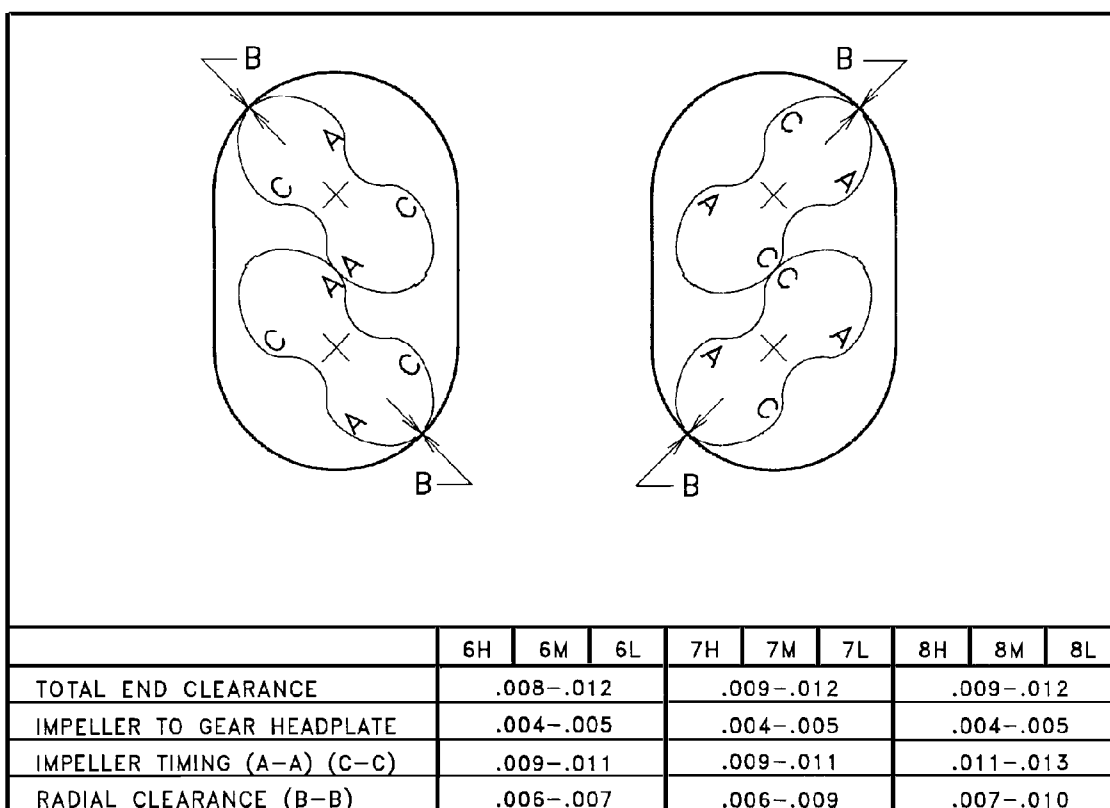

FIGURE 21
If total clearance is not within the limits specified in FIGURE 21, page 20, it may be necessary to shim the case to obtain the proper total end clearance. The shim should be placed between the drive headplate and impeller case.
12. Push the impellers against the gear headplate and recheck the total end clearance between the drive headplate and the impellers (see FIGURE 21, page 20).
- A. If total end clearance is insufficient, loosen impeller case to headplate bolts on either headplate, and move the headplate away from the case far enough to insert a paper shim in the amount equal to the insufficient clearance. Retighten case bolts and again check the total end clearance. Refer to FIGURE 21, page 20, for correct clearance.
13. Impeller tip to case clearance should be checked at this time by inserting the correct thickness feeler gauge between the tip and the case (B) and rotating the impeller (see FIGURE 21, page 20). Repeat the procedure on both impellers.
- D. Recheck end clearances. Approximately $\frac{1}{3}$ of the total end clearance should be on the gear end and the remaining $\frac{2}{3}$ on the drive end (refer to FIGURE 21, page 20).
- G. Refer to diagram in FIGURE 21, page 20. Use feeler gauges to check clearances between impeller lobes at positions A-A and C-C. Add the clearances, and divide the total clearance evenly between A-A and C-C.
- H. Loosen the four capscrews (38) in one gear only. Wedge the correct amount of feeler gauge between the impeller at A-A. If movement between the gear and hub is not sufficient to time the impellers, it will be necessary to loosen the four capscrews (38) in the mating gear to obtain a large adjustment range. Adjust so that the clearance at A-A is equal to C-C within .001 inch.